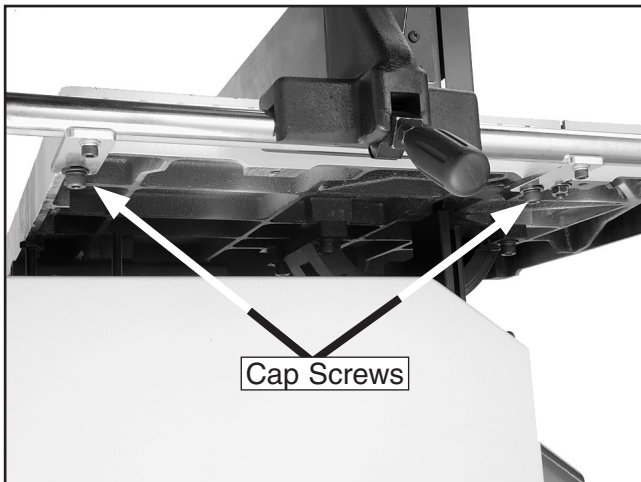

Figure 33. Cap screws securing rail to table.
4. Loosen the two cap screws that secure the rail to the table (**Figure 33**).